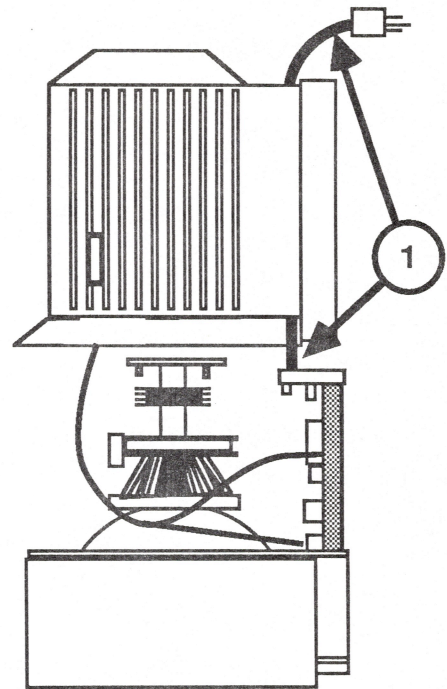

FIGURE 38
2. Orient the rear cover and monitor as shown in Figure 38; the monitor is face down.
3. Guide the AC power cord through the opening in the rear cover while you lower the cover onto the monitor (Figure 38, #1).